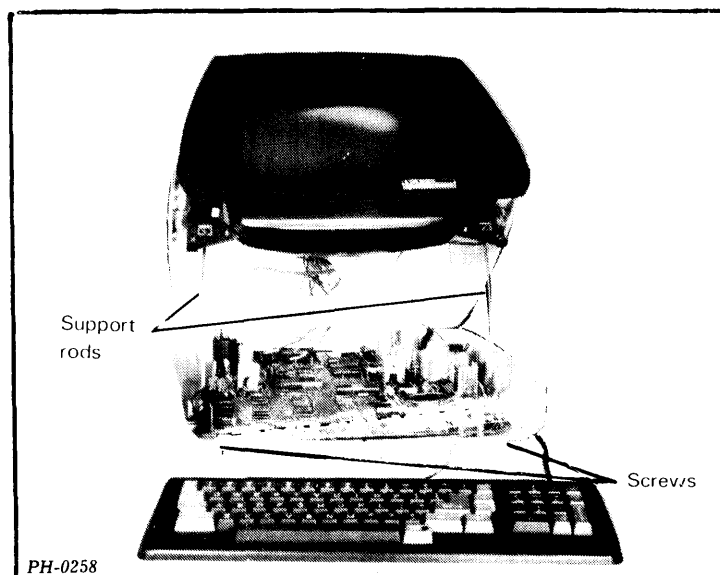

Figure 8.1 Opening and closing the display case
2. Tilt the display unit backward and locate the two screws underneath the front of the case. Unscrew these screws until the screw heads are flush with the case (see figure 8.1).
4. Carefully tighten the two screws underneath the front of the case until they are snug (see figure 8.1). Over-tightening the screws may damage the screw housing.